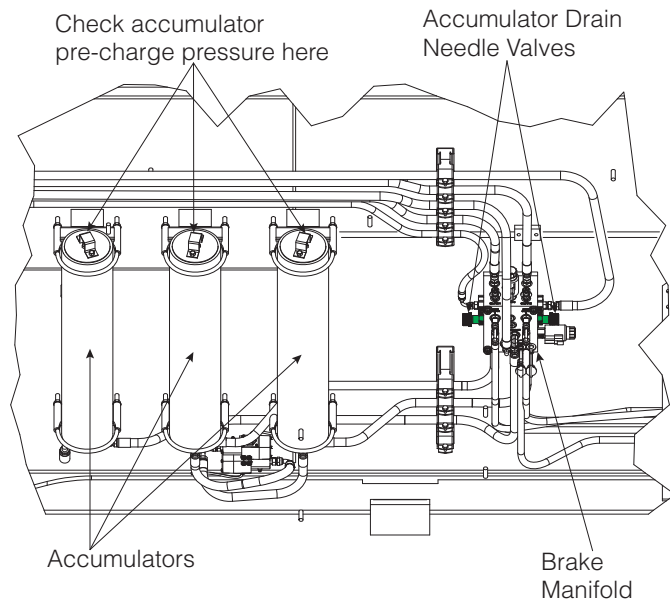

Figure 3 - Accumulators & Brake Manifold
1. Open accumulator drain needle valves on brake manifold to relieve hydraulic pressure (see Figure 3). Accumulators and brake manifold are located on the LH side, inside on the chassis wall.